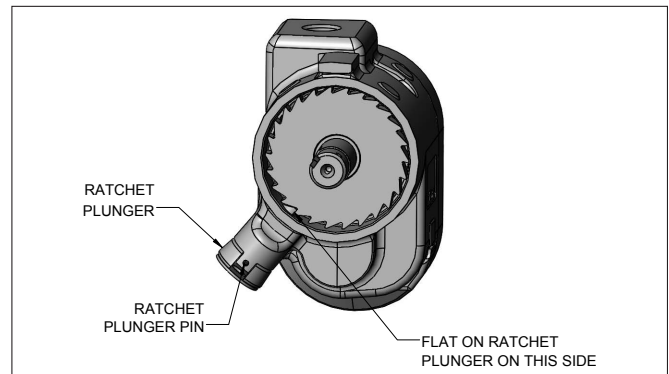

Figure 13. - Ratchet and Ratchet Plunger Assembly
- b. Check Bushing in Ratchet to be sure it is flush or below the surface of the Ratchet on both sides. Assemble Ratchet with Ratchet Teeth facing as showing in Fig. 13.